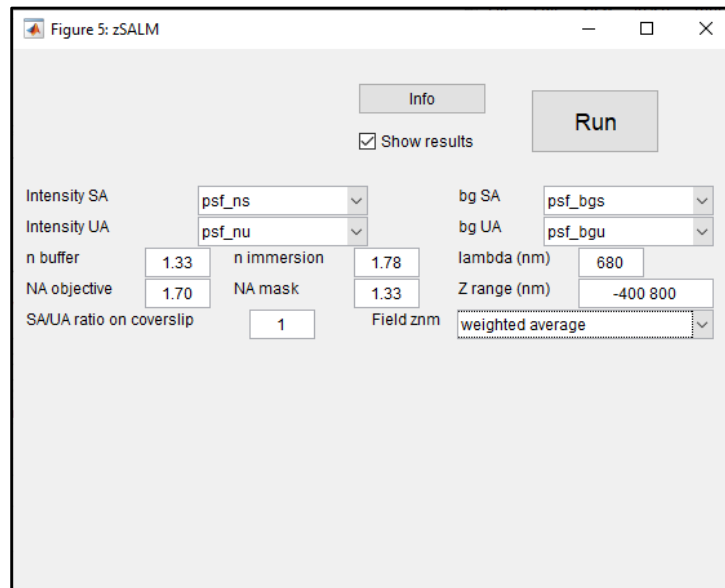

Figure 8: GUI 'zSALM' to calculate the z-coordinate for every single molecule blinking event.
2. Keep the parameters as shown in Figure 8. Make sure that the correct fields are selected for SAF and UAF intensities and background. If needed, adjust the parameters.